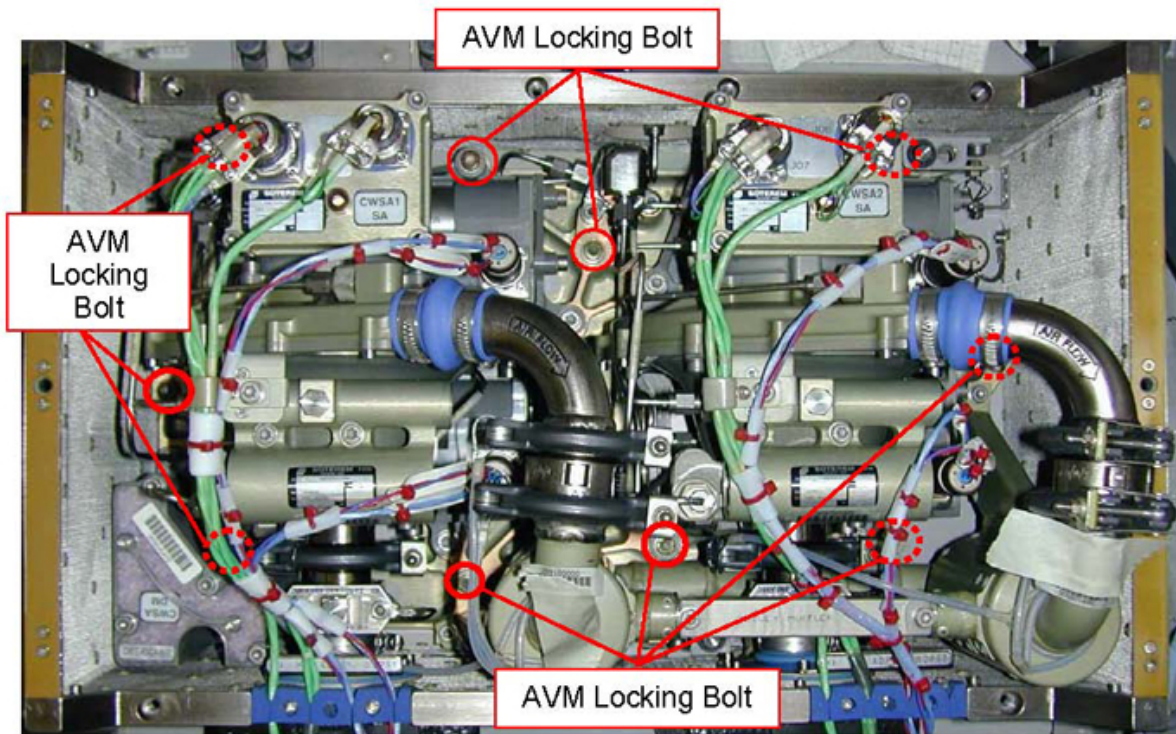

Figure 6. AVM Locking Bolts Identification
- 3.1 Completely loosen AVM Locking Bolts (ten) (T-Handle Square 3/8"; 455 mm Extension, 3/8" Drive; Adaptor 3/8" to 1/4"; M6 (5mm) Hex Head Driver 1/4" Drive). Refer to Figure 6.